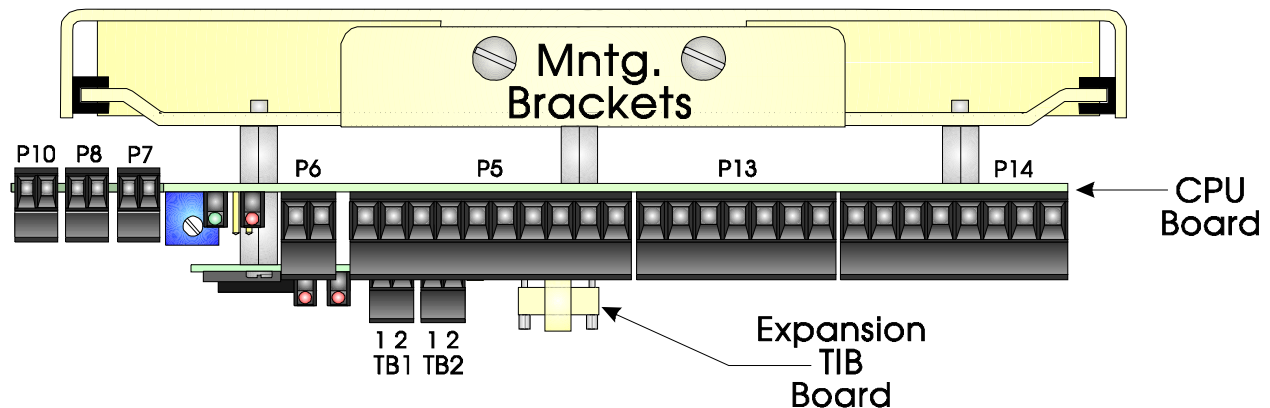

Figure 4 - Horizontally Mounted TeleFlow CPU & Expansion ETIB
To remove the optional Expansion Transmitter Interface Board, follow steps 1 through 7 below. To replace the ETIB Board follow steps 2 and 6 below in reverse order, installing rather than removing the item in question and then perform step 7 (see Figures 4 & 5).
2. Replace the three screws that secure the CPU Board to the Mounting standoffs with #4-40 x 15/32" Standoffs (see Section 2.1.1 - Figures 4 & 5).